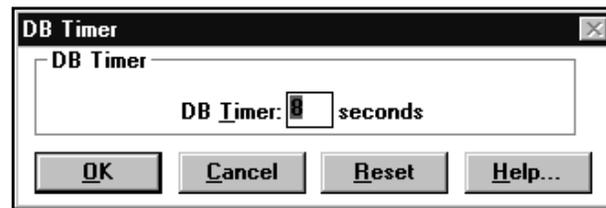

FIGURE 93. Example of DB Timer dialog box
1. To set the number of seconds the IWS Billing application waits for a response to an operator query from the CCDB or the Intelligent Service Node Provisioning System (IPS), select DB Timer in the configuration window. (See Figure 93.)